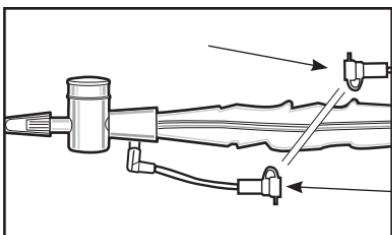

Fig. 3
1. For lavage, advance the catheter to desired depth and instill fluid at the lavage port located nearest the thumb control valve (**Fig. 3**).